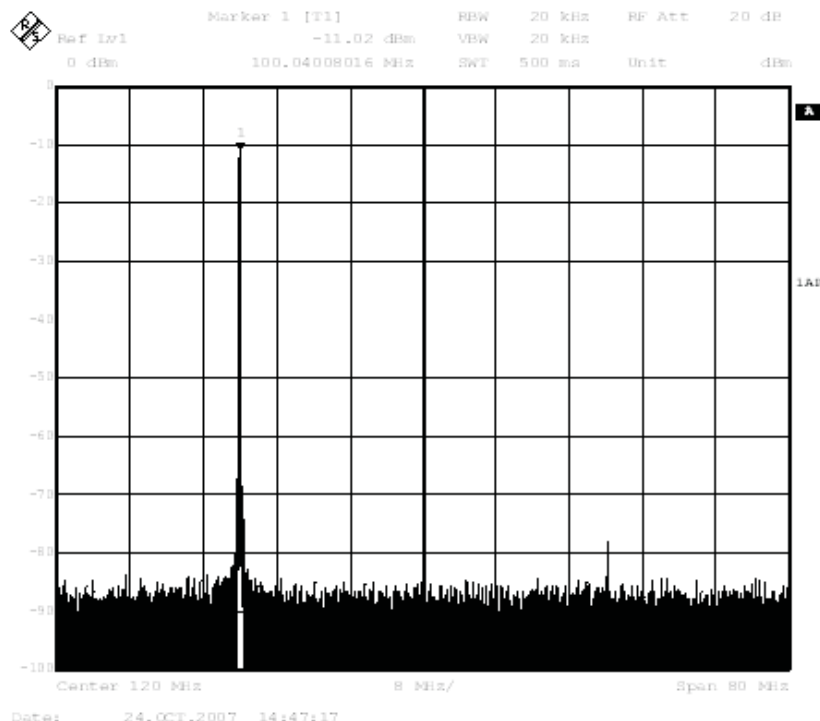

Figure 52. Filter Design Output Spectrum
3. Click **Configure**. The filter design starts. After the design is complete, the GUI programs the DDC, followed by the DUC. These actions display in the **Status** area. After *Finished* displays in the **Status** area, the user should see the output spectrum in Figure 52.